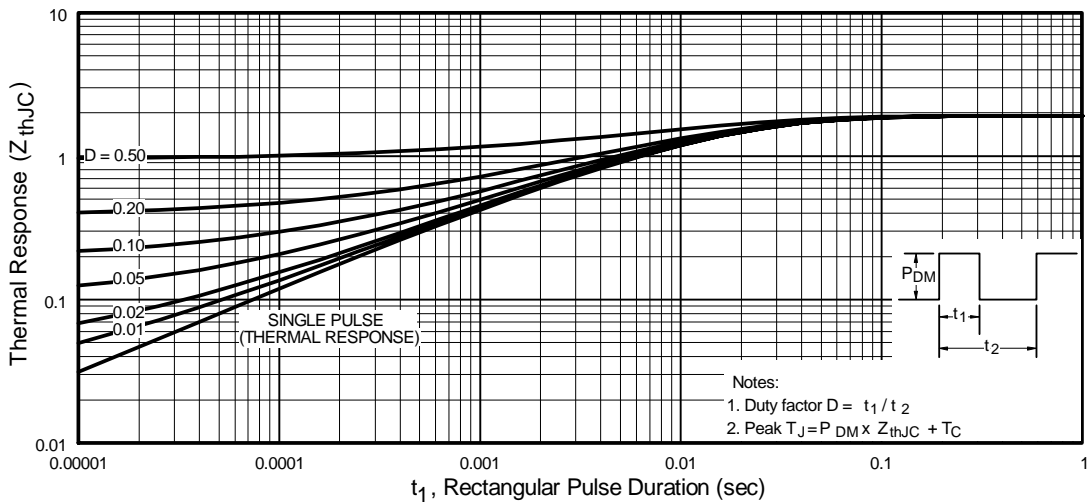

Fig 11. Maximum Effective Transient Thermal Impedance, Junction-to-Case
- ① Repetitive rating; pulse width limited by max. junction temperature. (See fig. 11)
- ② Starting $T_J = 25^\circ\text{C}, L = 6.4\text{mH}$